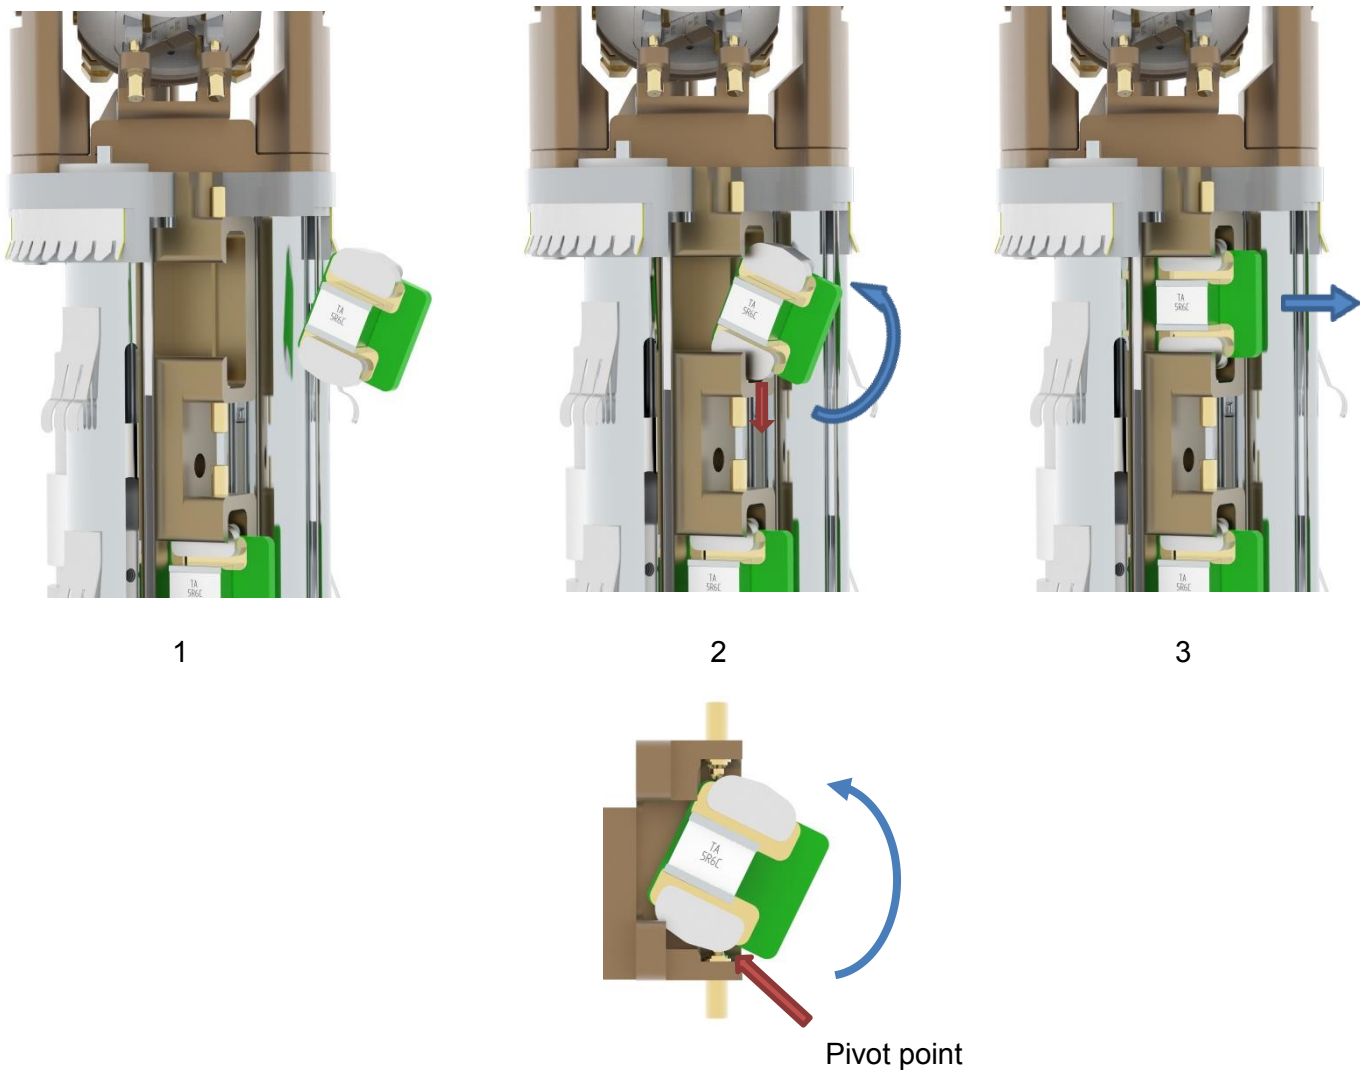

Figure: 8
1. Hold the insert at angle as shown in figure 8–1.
2. Rotate the insert while firmly pushing down on the bottom spring loaded contact located in the insert ports, as shown in figures 8–2 and 8-2A.